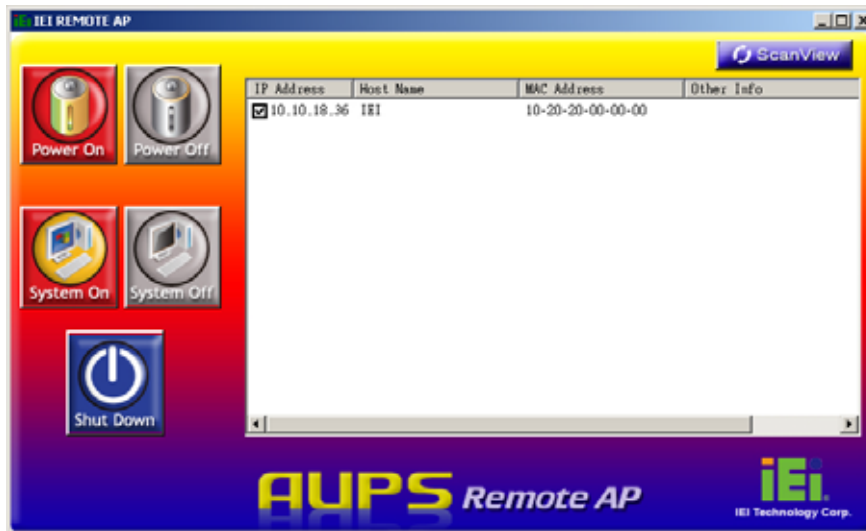

Figure 8-16: IEI REMOTE AP
Step 10: The IEI REMOTE AP tool appears (**Figure 8-16**). All the eKINO-945GSE panel PCs in the same subnet with this remote computer are shown in the list on the right. Click the function buttons on the left to control the eKINO-945GSE.